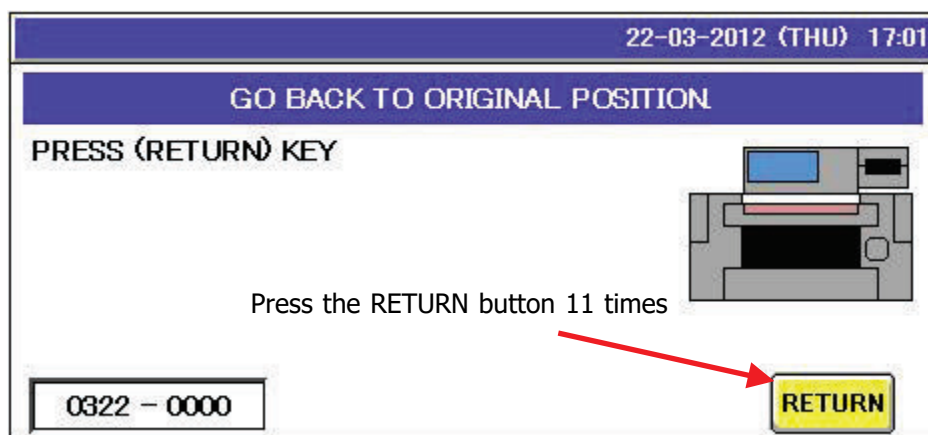

Fig 1. Screen when the power is ON.
- 4 Press the [RETURN] key on the screen 11 times. The screen in fig. 1 will be released and returned to the normal screen.